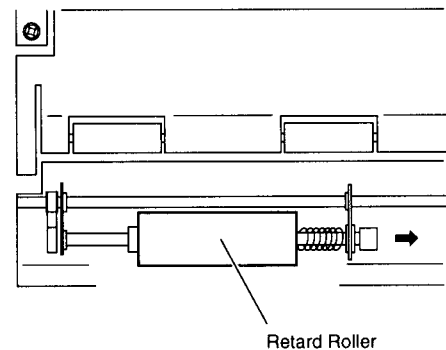

Fig. 4-38
- 3) Grip the Retard Roller and slide, as shown in Fig. 4-38.